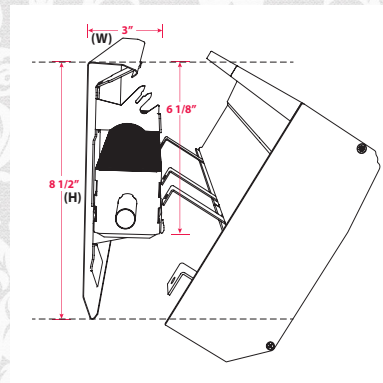

Figure 8
4. If the old baseboard length is the same as a standard length Revital/Line[™] Cover, use the standard length Revital/Line[™] Cover and End Plates/Solid End Caps. Attach End Plates, (if chosen), placing them against the end of the Revital/Line[™] Cover using Phillips Head screws supplied. Use smaller #4-40 Phillips Head screw at the bottom of Cover and larger #6 Phillips Head screw (See figure 8) for the top of the End Plate.
8. When using support Brackets, position new assembled cover with wall brackets below piping, then lift into place so that top lip of new Cover goes behind back panel of the old baseboard. (See Figure 8)